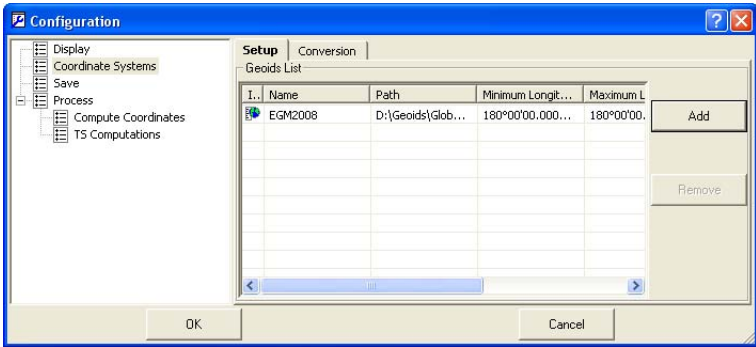

Figure 3-13. Select Geoid
- The *Coordinate System* item displays the *Setup* and *Conversion* tabs in the right pane. In the *Setup* pane the user can view, add, or remove available geoid file (Figure 3-13). Click **Ok** to save and exit.